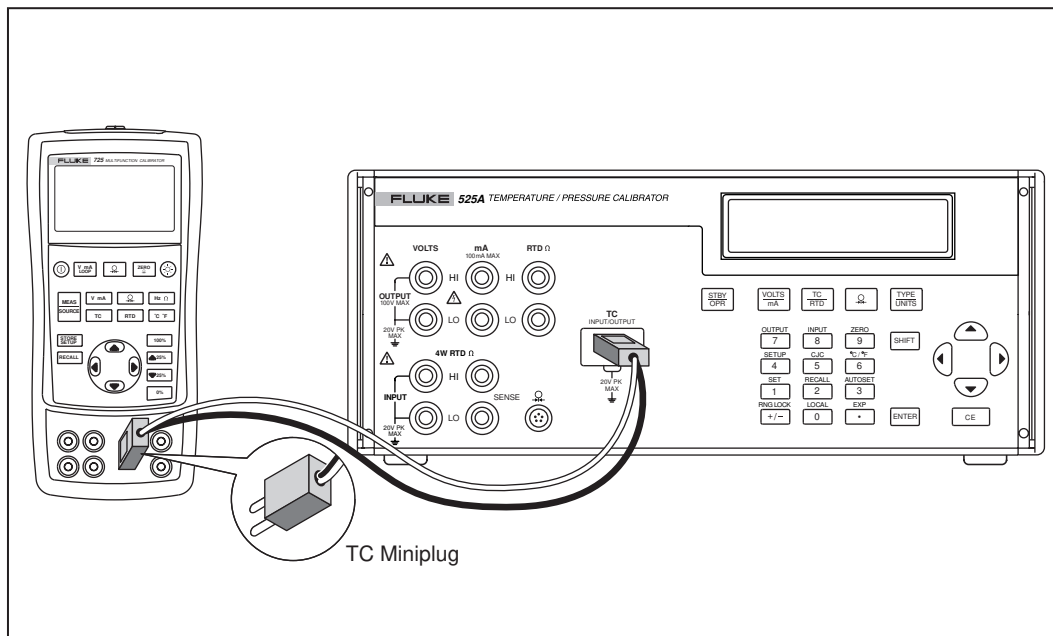

Figure 2-1. Connection to Simulate Temperature Using a Thermocouple
Connect the Calibrator TC input/output to the unit under test (UUT) with thermocouple wire and the appropriate thermocouple mini-connector. Supported TC types are listed in Chapter 7. Figure 2-1 shows this connection.
1. Attach the thermocouple as shown in Figure 2-1. One pin is wider than the other. Do not try to force a miniplug in the wrong polarization.